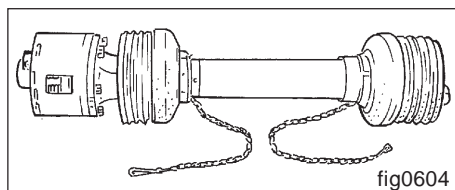
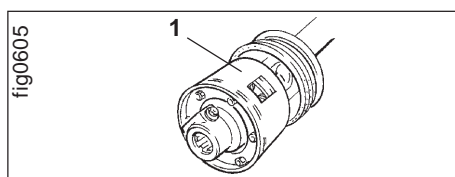

Fig. 6.4
Fig. 6.5
Pto shaft W 2500 (Fig. 6.4) with friction clutch EK 96/4 (Fig. 6.5/1) or
1. The friction clutch EK 96/4 (Fig. 6.5/1) must be "aired" before it is used for the first time and after longer operation pauses. The required steps are described in para. 19.
### Friction clutch EK 96/4 (Fig. 6.5/1):